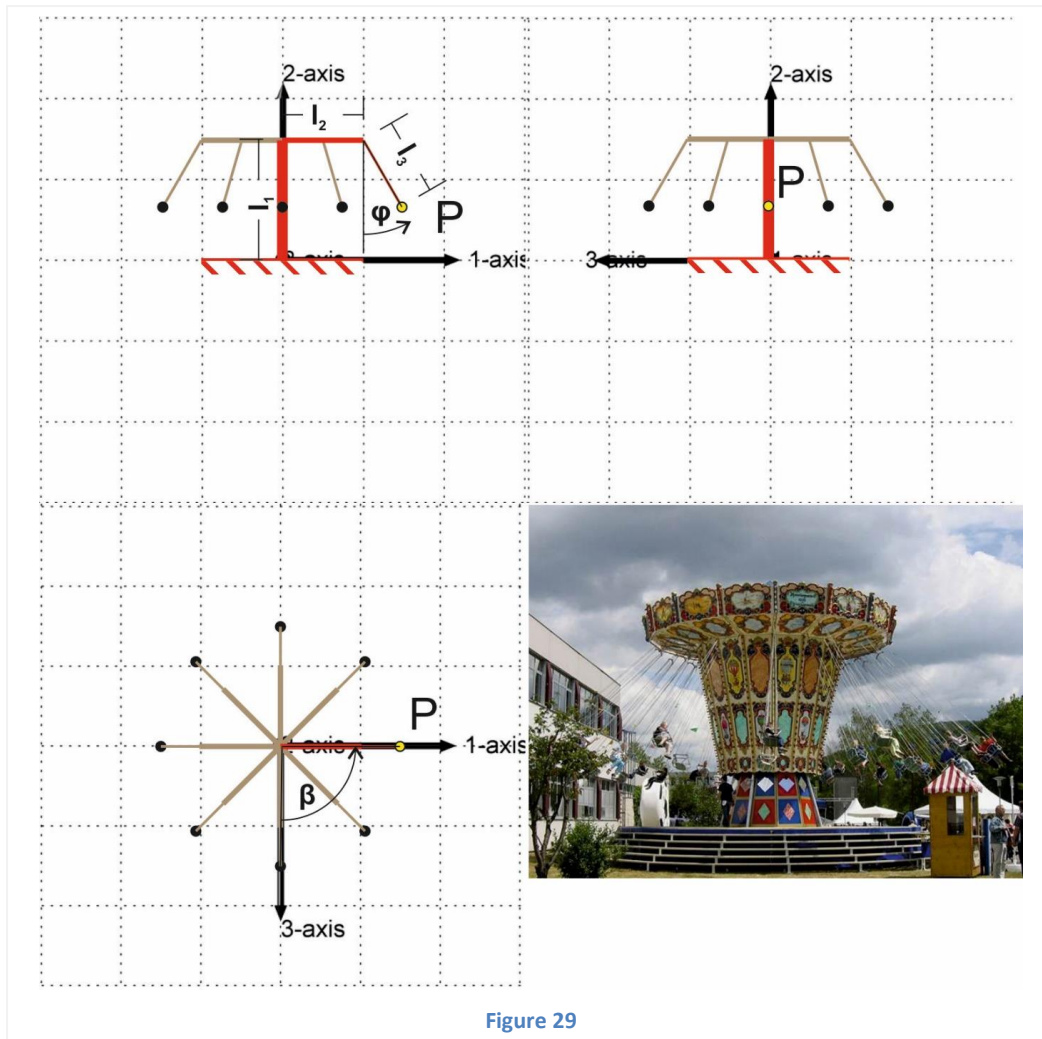

Figure 29
- ☑ The pictures in Figure 29 show a chairplane and its abstraction in a three axis view.
(c) Sketch the possible directions of motion (vector length not necessarily drawn to scale) in all three views of Figure 29.